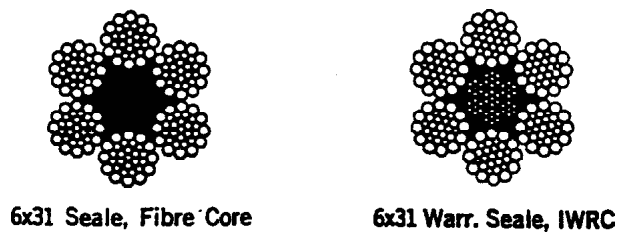

Fig. 7-10
Let's look at a typical identification for wire rope and see what the terms mean. We will order a typical wire rope for a traction hoist. Let's assume it's a 5/16 (8mm), 6 x 31 (Seale) fiber core drawn galvanized right regular lay preformed improved plow steel wire rope (Fig. 7-10), 100 feet (30m) long.
In our example, we specified that our six strands of 31 wires each are to be wrapped around a **fiber core** (FC) (Fig. 7-10). The core of a wire rope may be wire rope, fiber rope, polypropylene rope, or electrical cable. **FC** is Fiber Core, and now most FC is **PFC** (Polypropylene Fiber Core). IWRC means an Independent Wire Rope Core. IWRC is chosen for crush resistance and additional pull and bending strength, while FC is less expensive, more flexible, and often has a more efficient design.